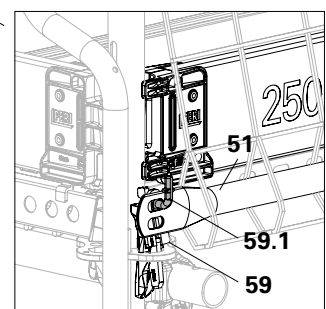

Fig. D2.03a
6. Secure the guardrail posts on the Guardrail Holder EPW at the beginning and end of the protection panel with suitable means. (Fig. D2.03a)